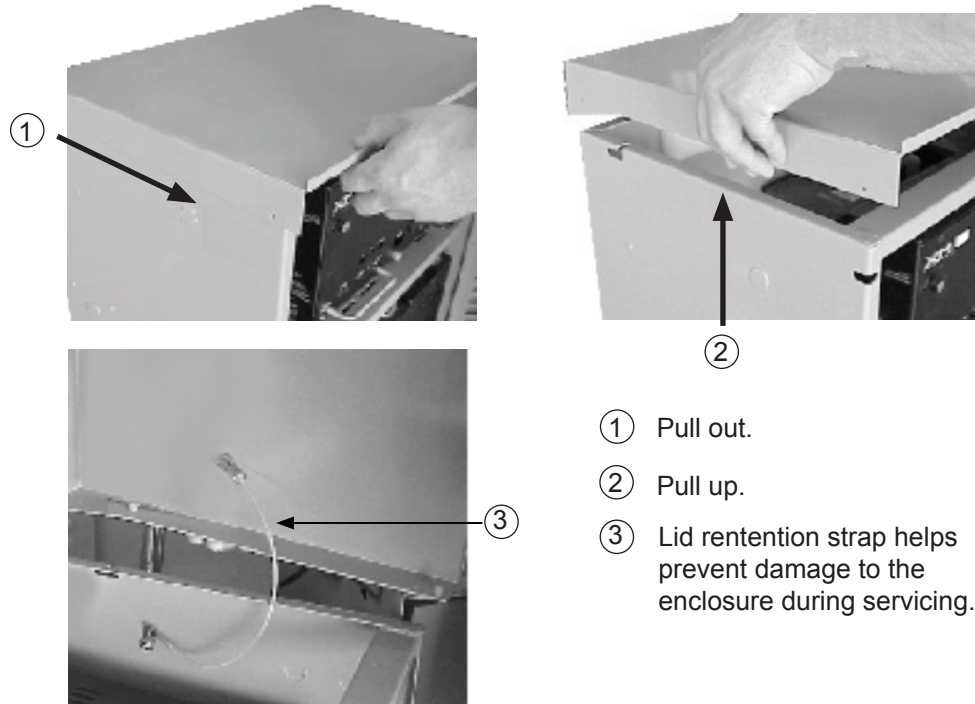

Fig. 1-2, Removing the Enclosure Lid
- Standard slide tray for weights no greater than 300 lbs. See Fig. 1-2 for operation instructions.